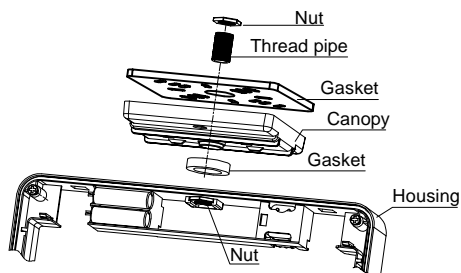

Fig 5 Use provided thread pipe and 2 nut fix canopy on unit, put gasket between unit and canopy.
4. Knock out the mounting hole on the top or side of the unit, assemble the canopy on the unit (see Fig 5).